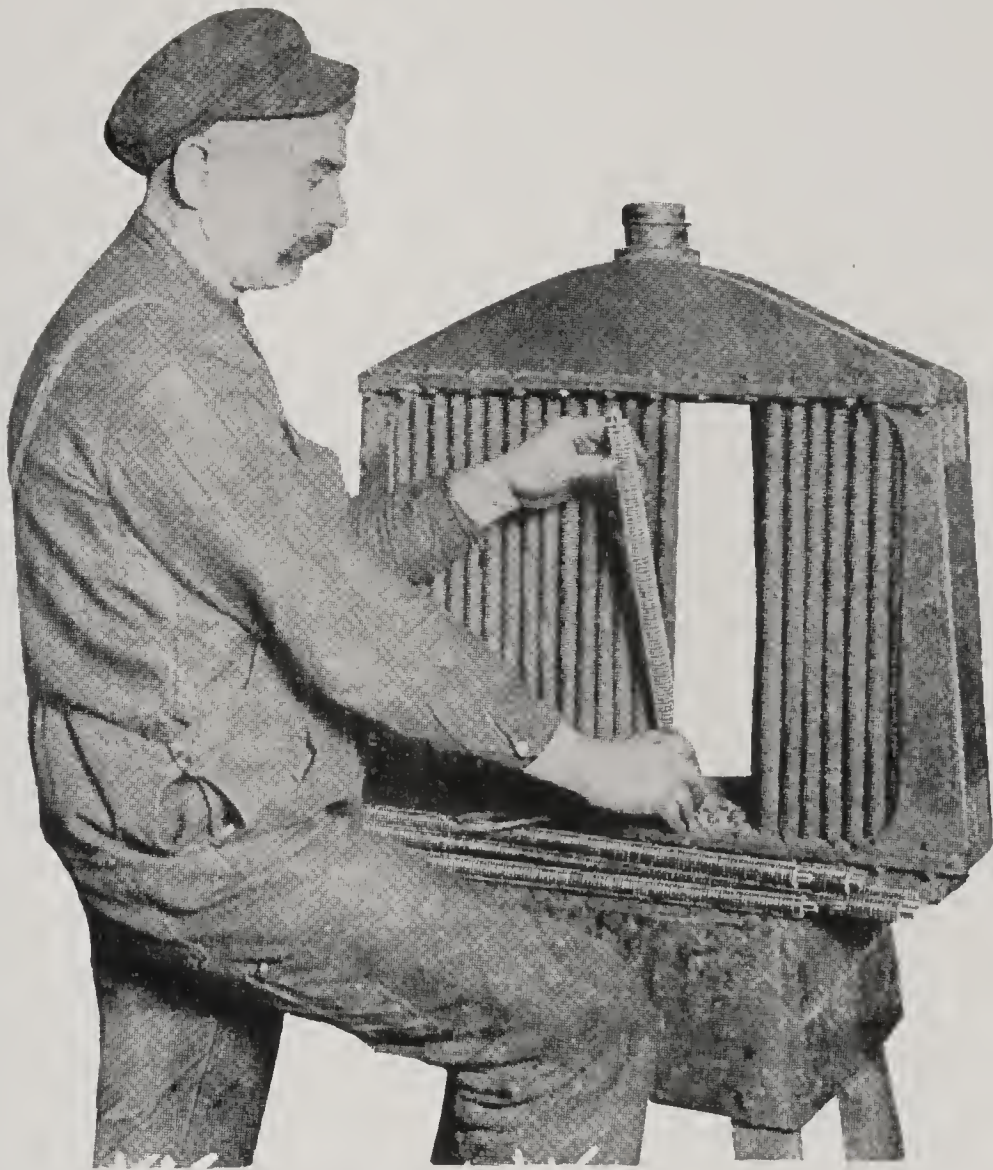

Fig. 97
**46. Installing Finned Tubes**—The removal and insertion of tubes in the finned tube radiator illustrated in Fig. 97 is not at all difficult. The damaged tube is cut in two and removed after heating at the joint in the headers. The solder is removed from the hole in the header and the new finned tube is inserted thru one header then slipped back to enter the corresponding hole